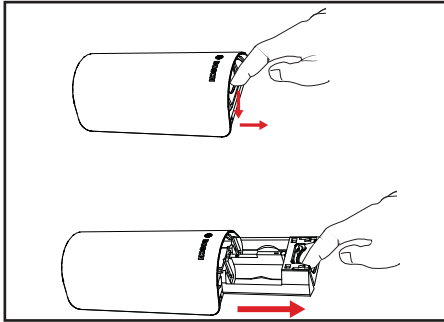

Figure 9.1: Removing the battery tray
3. Press down while sliding the tray completely out of the motion detector body. Refer to *Figure 9.1*.